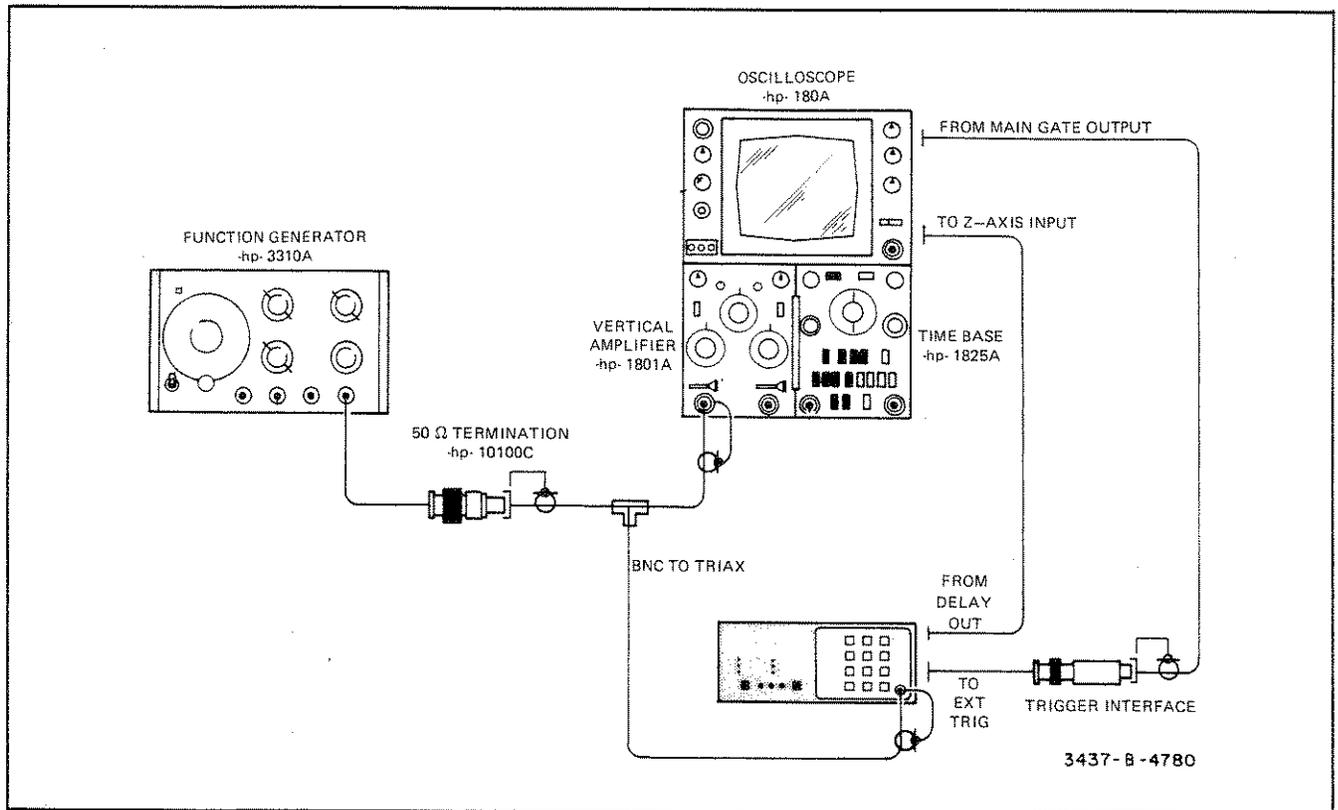

Figure 3-2. Oscilloscope Accuracy Enhancement.
- a. Connect the equipment as illustrated in Figure 3-2.